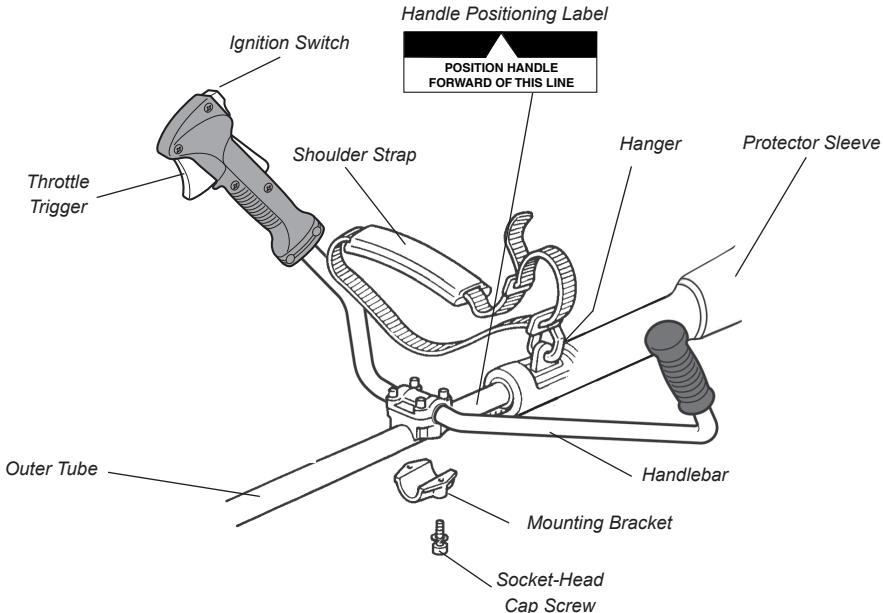

Figure 5
1. Use the 4 mm hex wrench to remove the lower cap retaining screws from the handlebar bracket. Remove the cap from the bracket. See Figure 5.
2. Position the handle on the outer tube forward of Handle Positioning Label as shown in Figure 5. Reassemble the lower cap to the handlebar bracket in the reverse order of disassembly.
5. Install the protector sleeve on the outer tube. See Figure 5.